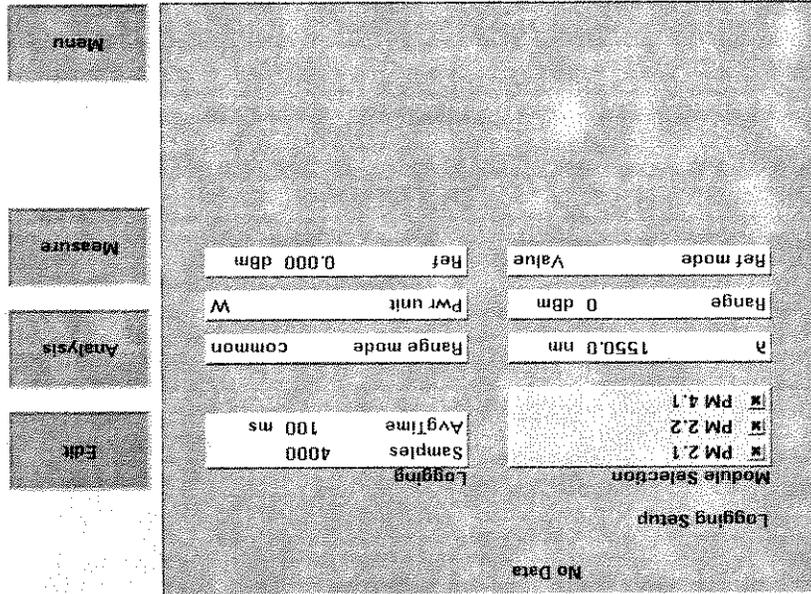

Figure 114 The HP 8164A Logging Setup Screen
- 2 Move to <Logging> and press *Enter*. The HP 8164A Logging Setup Screen, as shown in Figure 114, or the HP 8163A Logging Modules Setup Screen, as shown in Figure 115, appears depending on the mainframe instrument you are using.